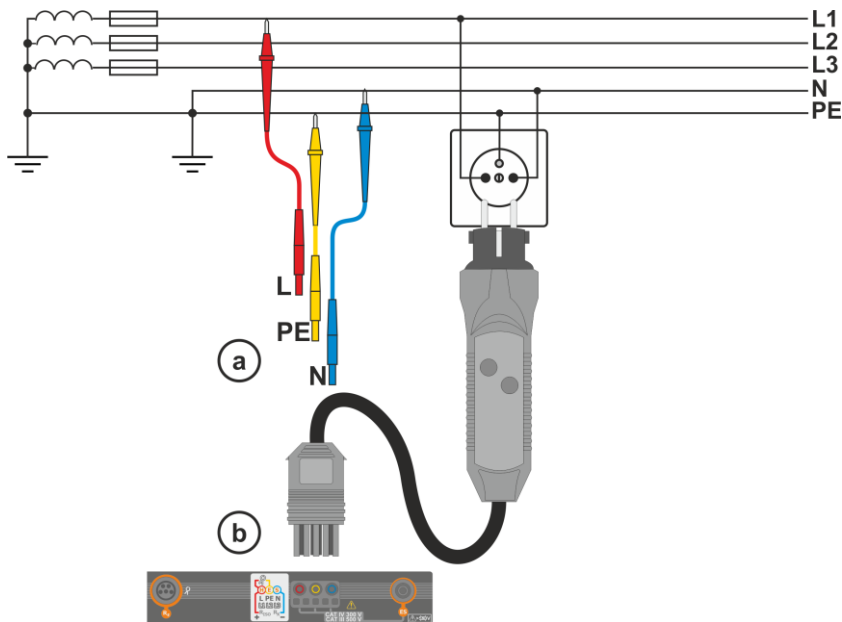
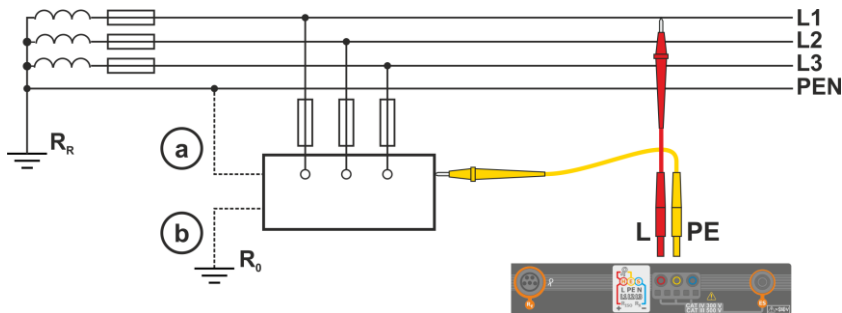

Fig. 3.1 Measurement in L-PE circuit
Fig. 3.2 Checking effectiveness of protection against electric shock of the meter housing in case of: (a) TN network or (b) TT network
- 1 Connect test leads according to Fig. 3.1 or Fig. 3.2.